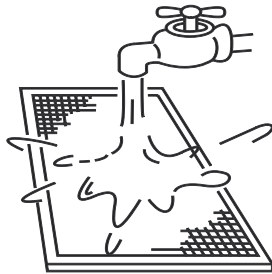

Figure 13.3
- b. The air intake side should face down when using clean water. (Refer to Figure 13.3)